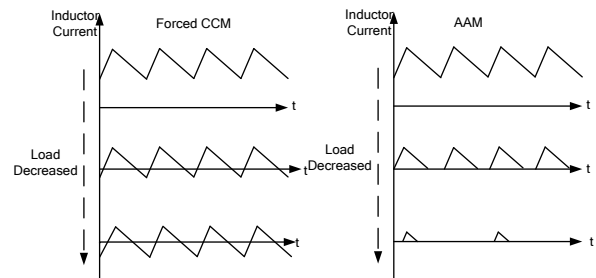

Figure 3: FCCM and AAM Mode
Under normal-load conditions, the controller operates in full pulse-width modulation (PWM) mode (see Figure 3). At the beginning of each oscillator cycle, the top gate driver is enabled. The top gate turns on for a period determined by the duty cycle. When the top gate turns off, the bottom gate turns on after a dead time and remains on until the next clock cycle begins.
The MPQ2908A employs advanced asynchronous modulation (AAM) mode functionality to optimize efficiency during light-load or no-load condition (see Figure 3). AAM is enabled when CCM/AAM is at a low level by connecting an appropriate resistor to SGND to ensure that the AAM voltage (V_{AAM}) is no less than 480mV. See Equation (1):